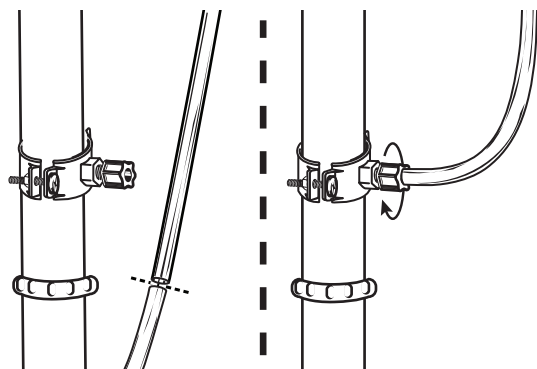

Figure 9
1. Align the 3/8" red tubing from the faucet with the compression nut on the drain clamp, see Figure 9. Create as straight a path as possible with the tubing. Cut the tubing squarely below the nut and remove the internal and external burrs.
2. Loosen the compression nut two (2) complete turns. Insert the tubing into the nut until it stops. Tighten with fingers, then tighten one (1) to two (2) turns with a wrench.